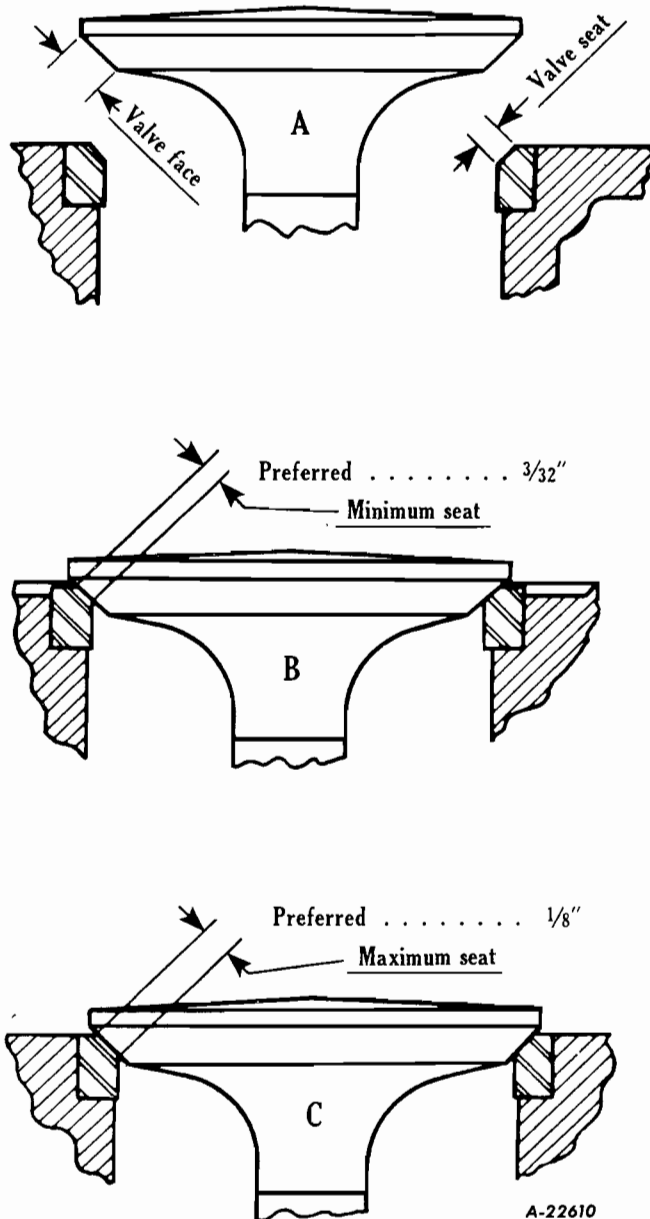

Fig. 9 - Valve Seat Widths, Exhaust.
2. Inspect exhaust valve seat rings for looseness and inspect for excessive width of valve seat surface (Fig. 9). If insert rings are loose, replace. If a seat has been previously ground to such extent that it cannot be narrowed from top to bring to proper position near center of valve face, the ring must be replaced.
because they are usually larger in diameter, thus providing a total seat area approximately equal to smaller exhaust valve with the wider seat. Also the less severe heat conditions do not require as large a seat area for heat dissipation purposes. Figure 9 illustrates recommended valve seats to be obtained.